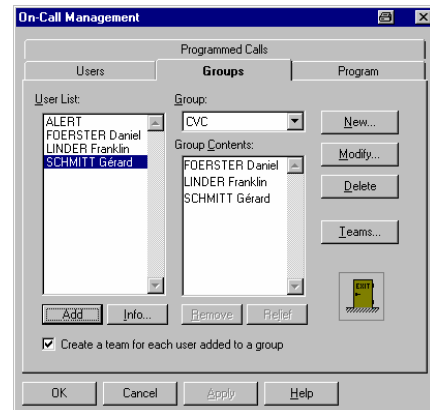

Fig. 7-55:
- On the "Groups" tab, create a on-call group (see Fig. 7-55 and "Alert" User Manual, Chapter 5.3)